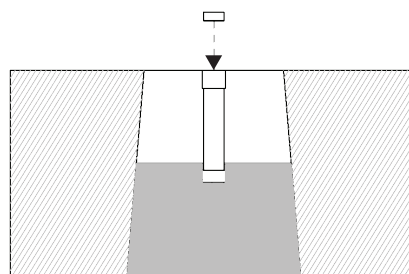

Figure 3
STEP 6: Replace Anchor Sleeve Cap and fill the rest of the hole with concrete. See Figure 3 and 4.